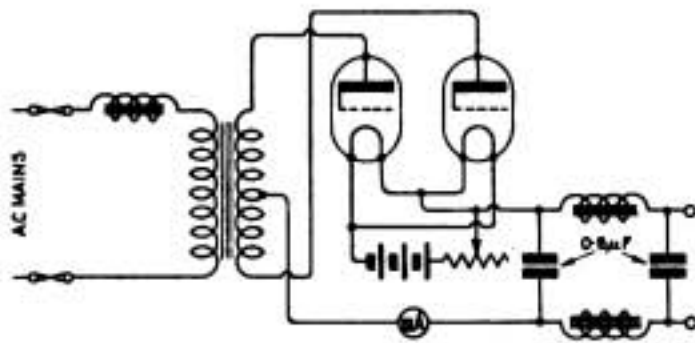

Fig. 3.
(1) Possible, but it would be better to add one valve as H.F. amplifier and one as L.F., diagram becoming similar to Fig. 3, page 340, issue for June 10th. (2) For your suggestion connect filaments in parallel on the same supply, put transformer in place of telephones, and bring anode circuit of each valve back to the positive of the H.T. battery. (3) Core $\frac{1}{2}$ " x 4" of iron wires, winding 1 oz. and 3 oz. of No. 44. (4) No.
(1) See diagram Fig. 3. (2) The transformer should be of the closed core type, the core of which may be made either of soft iron strip or wire. That part of the core which passes through the windings should have a cross sectional area of not less than three square cms. and 2 1/4" long. The primary should be wound with No. 22 double cotton covered wire and consist of five layers. The secondary should be wound with No. 28 D.C.C wire up